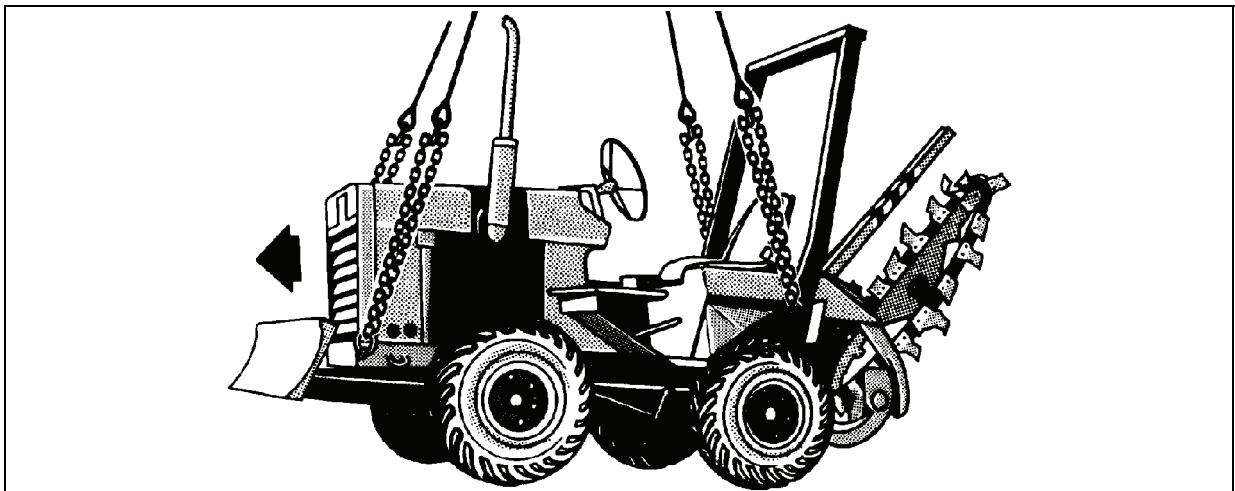

Figure 8-8. Ditching Machine
- **Rigging.** Rig the load according to the steps in Figure 8-8.